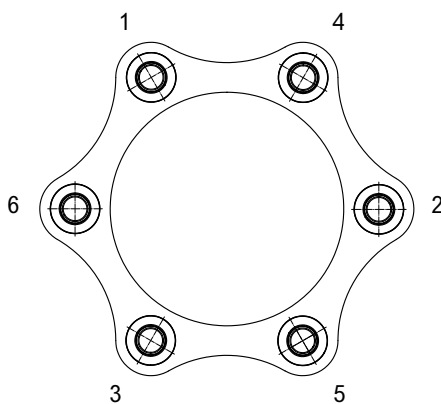

Figure 13
- 9.5 Apply a clean motor oil to the bolt threads and install a locknut on each bolt. Slightly tighten all locknuts using an alternating progressive pattern as shown in Figures 13 and 14, making sure all the bolts are fully seated. At this stage you will only be working with half of the bolts on the disc pack. Now tighten each locknut to the appropriate torque value shown in Table 5, using incremental torque in a progressive alternating pattern as shown in Figures 13 and 14.
- 9.10 Slightly tighten remaining locknuts using an alternating progressive pattern as shown in Figures 13 and 14, making sure the pack is not distorted and all the bolts are fully seated. Now tighten each locknut to the appropriate torque value shown in Table 5, using an incremental torque in a progressive alternating pattern as shown in Figures 13 and 14.